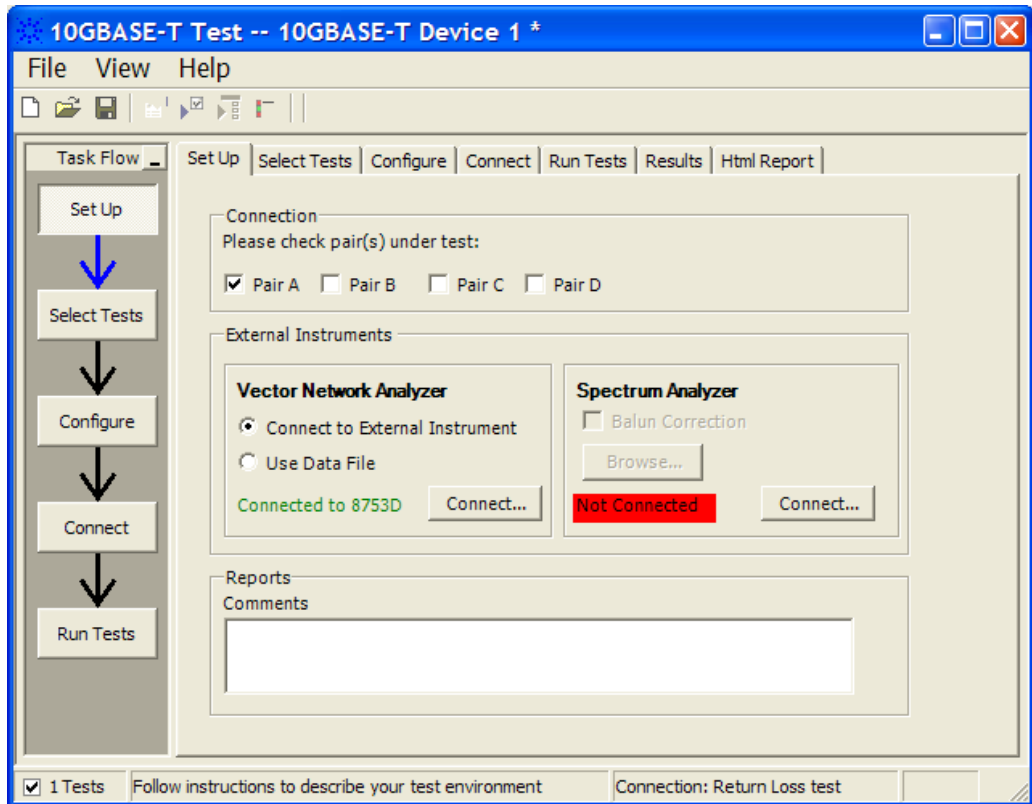

Figure 32 Setup page after application has detected the vector network analyzer
- 9 Once the application detects the vector network analyzer, it is indicated on the Setup page as shown in Figure 32 below.